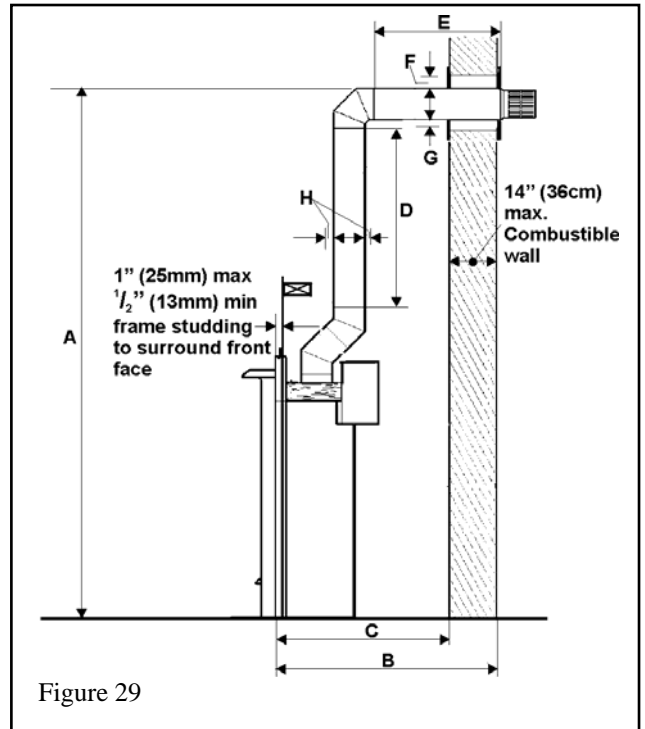

Figure 29
5.2.9. Top vent connection, vertical vent rise with horizontal rear termination (Fig.29)
Can be used with either #551DVK standard vent kit or #984 Dura-vent terminal cap and accessories. Adapter #817VAK, two 45° elbows #945B, one 90° vent elbow #990B and Dura-vent pipe lengths will be required. (See venting options section of this manual). The location requirements are (See figure 29):-
5.2.10. Top vent connection, vertical vent rise with horizontal side termination (Figs.29 &30)
5.2.12. Top vent connection, corner location, vertical rise, horizontal termination, 45° pipe bend (Figs 29 & 31)